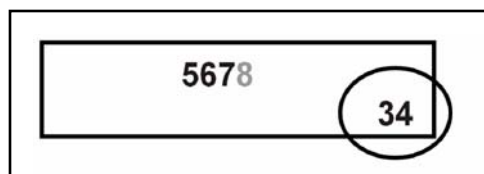

Figure 5-50: Display While in Service Mode
6. Press and hold all three coffee buttons. Observe the number displayed in the bottom right of display (refer to Figure 5-50).